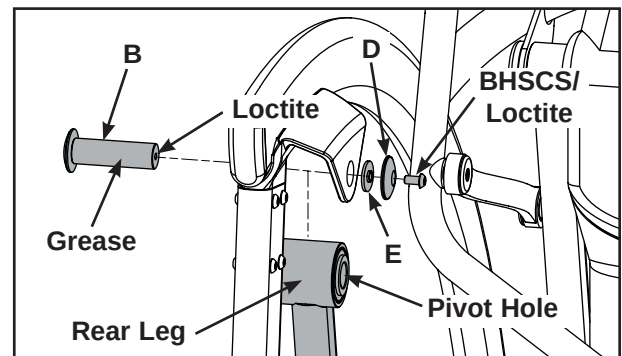

Figure 3
- B. Carefully lower the rear leg. See Figure 3.